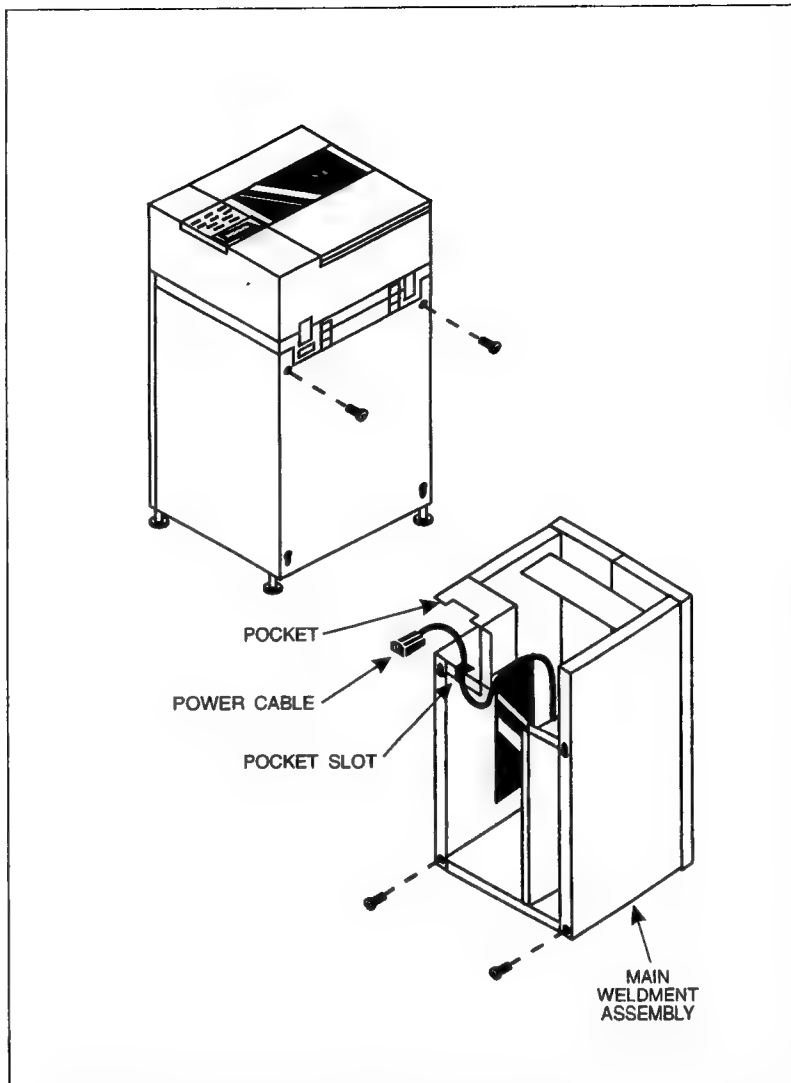

Figure 2-30. Starting the Screws in the Main Weldment Assembly and the Printer
- a. Start the two screws in the bottom of the main weldment assembly, and the two in the top of the printer stand. Use a #2 Pozidrive screwdriver to start the four screws (Figure 2-30).